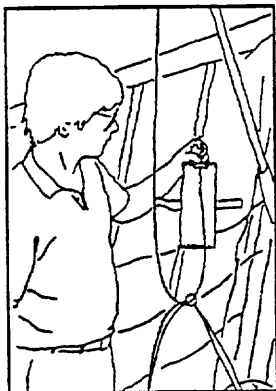

Figure 82
7) Detach the top rear wire at the rear keel. Detach the bridle ring from the bridle snap clip. Loop the top rear wire around the bridle cables and pass the keyhole tang through the elastic webbing band at the top of the kingpost top cover. (Figure 82)